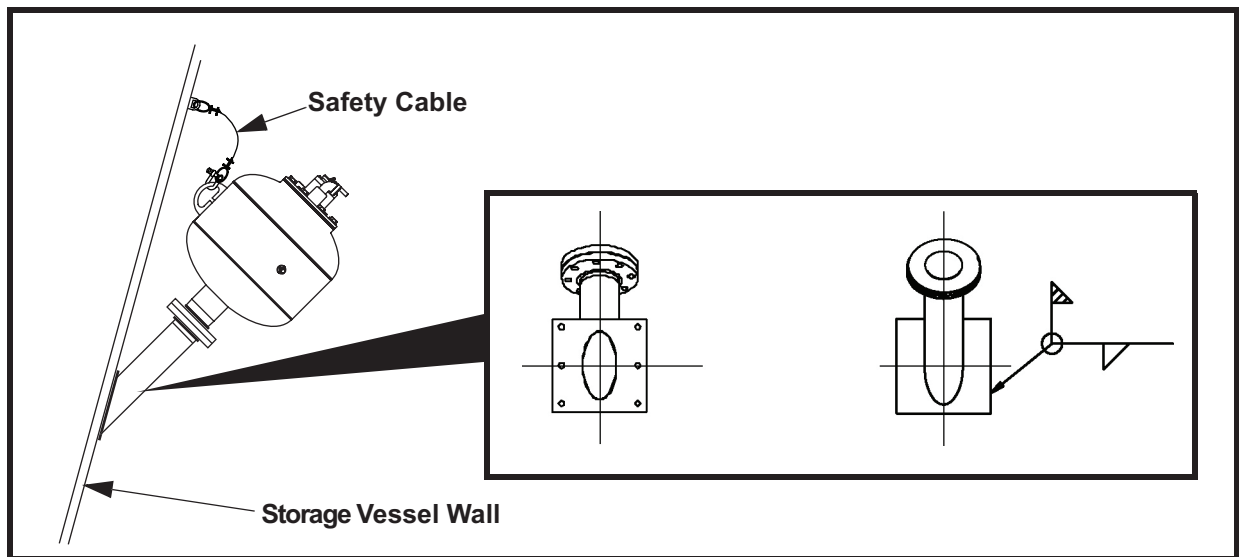

Figure 2. Installing 30-Degree Mounting Plate
3. If using 30-degree mounting plate (Figure 2), cut hole in storage vessel for each mounting plate using templates on last page of this manual. If templates are missing, contact Martin Engineering or representative. Place mounting plate over hole and field weld to storage vessel skin.